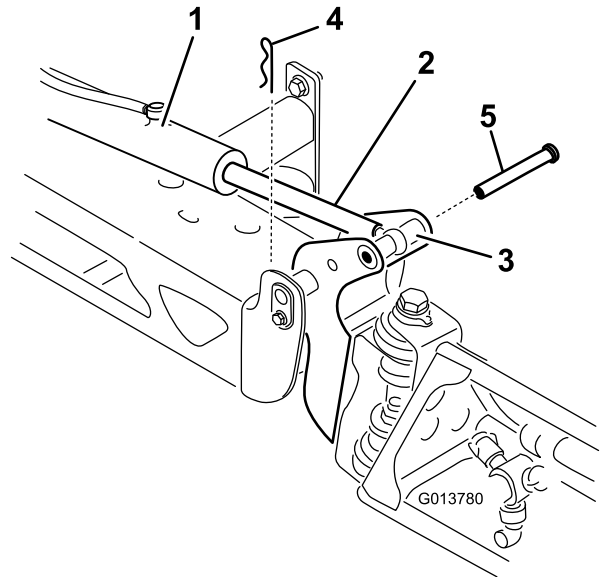

Figure 106
2. Remove the cotter pin from the pivot pin (Figure 106).
3. Lift up on the boom and remove the pin (Figure 106), and slowly lower the boom to the ground.
- While holding the boom, insert the pin through both boom pivot and rod end (Figure 106).